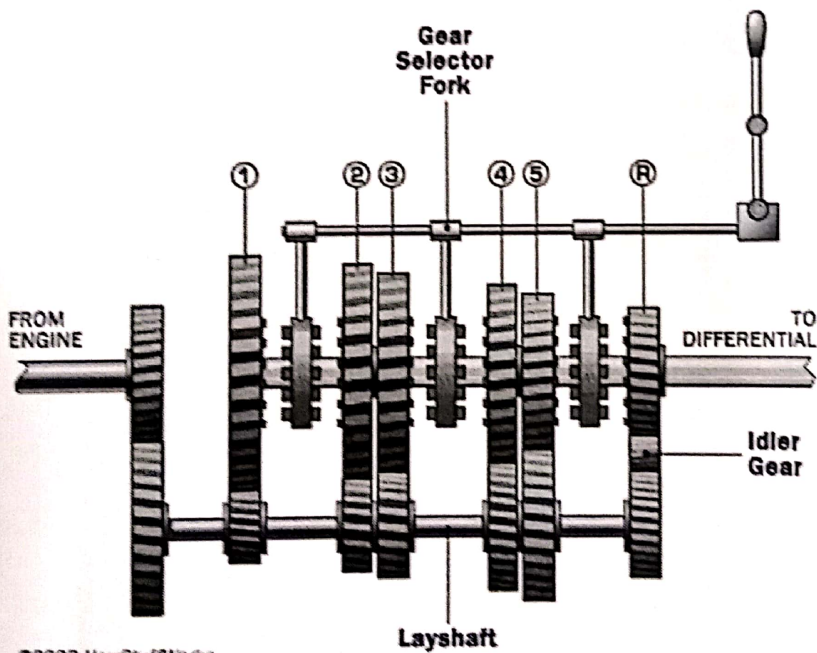

Figure 3
Figure 3 below shows a five-speed manual transmission system
- Sketch Figure 3
- Explain the function of the synchronizers (Note: These are not shown in Figure 3)